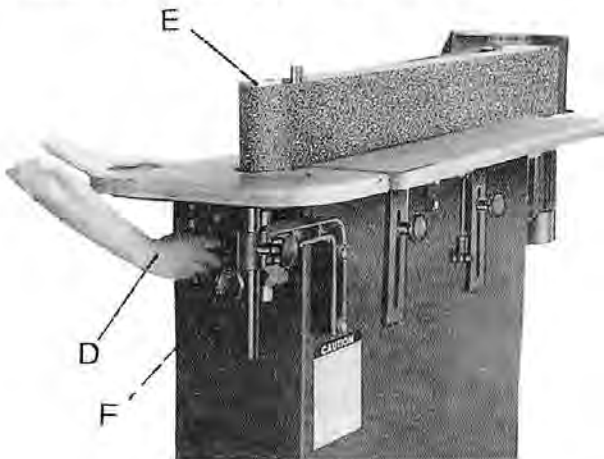

Fig.3.
4. Rotate the abrasive belt tension adjustment knob (D), Fig. 3, clockwise to release idler pulley device (E), then you can move out the old abrasive belt and put a new one on.